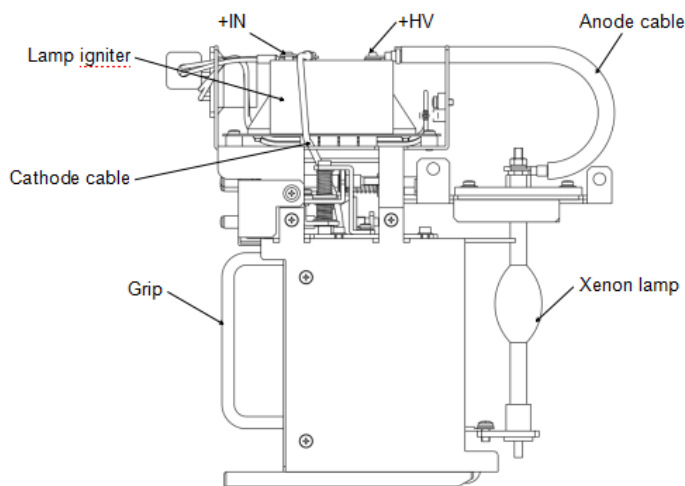
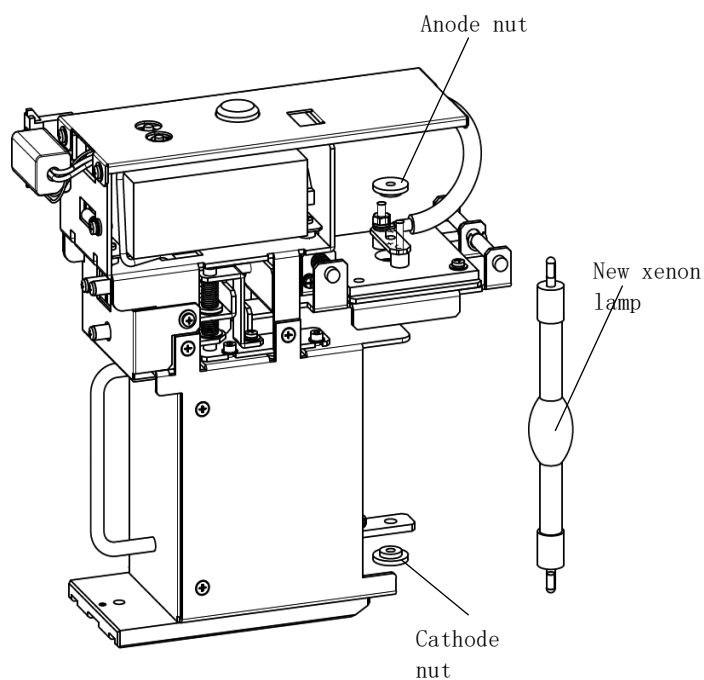
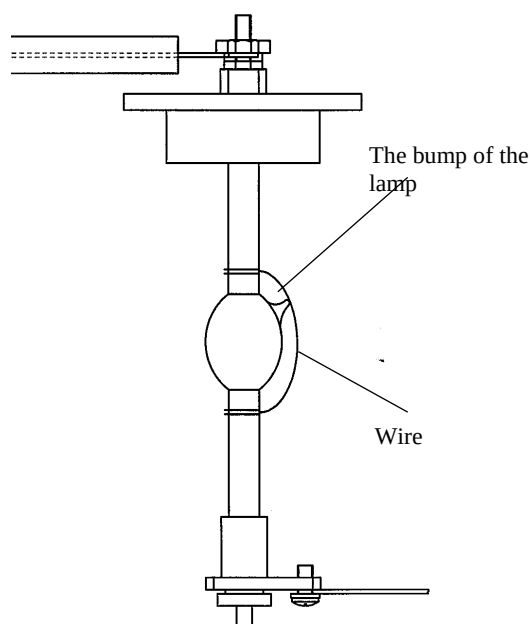

Fig. 8-4 Removed lampshade
Fig. 8-6 Installing the xenon lamp
Fig. 8-7 Projection of the lamp valve
Connect the hole of the spring plate to the cathode side screw of the lamp, and secure the cathode spring plate with the cathode nut (Figure 8-6). Be sure to install the lamp valve protrusion facing the front panel of the instrument (Figure 8-7).
- ⑨ As shown in Fig. 8-6, put the anode terminal (marked “+”) of the lamp into the metal fixture on the ceramic plate. Then, using the anode nut, mount the lamp so that the protrusion on the bulb is positioned as shown in Fig. 8-7. Refer to Fig. 8-4 for a view of the lamp when assembled.
the front panel side of the device (Figure 8-4). If the installation direction is not correct, the loss of light will be larger, and sometimes the original performance of the device cannot be obtained.